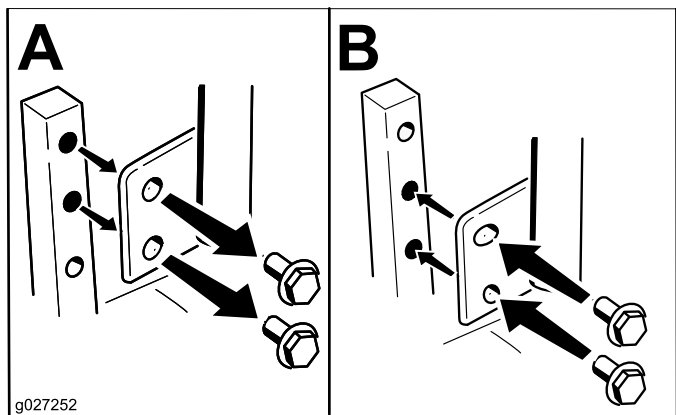

Figure 13
2. Loosen the lower bolt just enough to pivot the control lever forward or rearward (Figure 13).
You can adjust the motion-control levers higher or lower for maximum comfort (Figure 13).